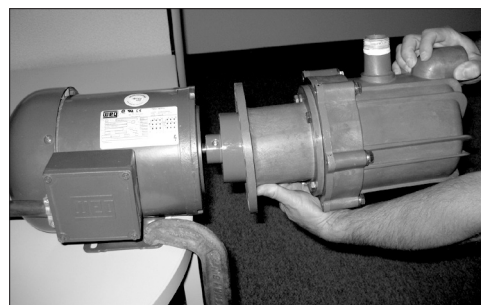

Figure 10
2. Securely clamp the motor to the bench. Remove the (4) 3/8" motor adapter bolts, lock washers and flat washers (items 28, 29 & 30) securing the pump to the motor. See figure 10.